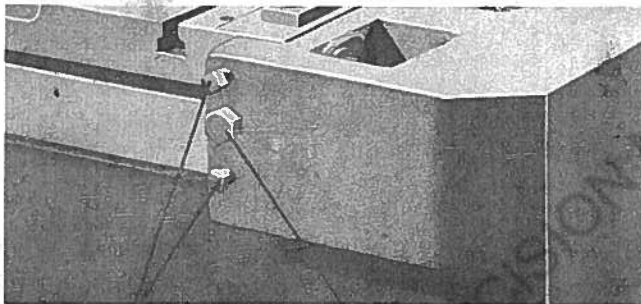

FIG. 6
To adjust the bed, slack off but do not loosen the nuts or bolts at each end that attach and clamp the bed to the housing. There are two nuts accessible from pockets in the top of each housing (on the same plane with the work surface of the bed), and cap screws under each end of the bed. Referring to Figs. 6 and 7, screws (A) move bed in to reduce knife clearance and screw (B) move bed out to increase knife clearance.